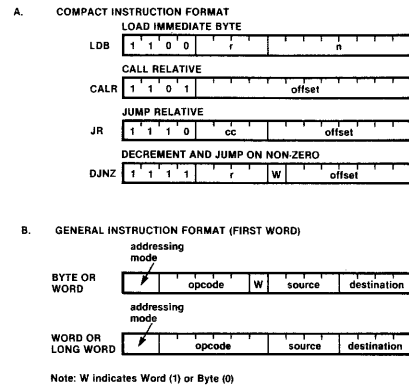

Figure 2-7. Instruction Formats
2.9.1 Instruction Formats. Formats of the instructions are shown in Figure 2.7. The two most significant bits in the instruction word determine whether the compact instruction format (A) or the general instruction format (B) is used. Compact formats encode the four most frequently used instructions into single words, thereby saving on instruction-memory usage and increasing execution speed. As long as the two most significant bits are not logic ones, the general format applies. In the general format, the two most significant bits in conjunction with the source-register field are sufficient for specifying any of the five main addressing modes. Source and destination fields are four bits wide for addressing the 16 general-purpose registers.